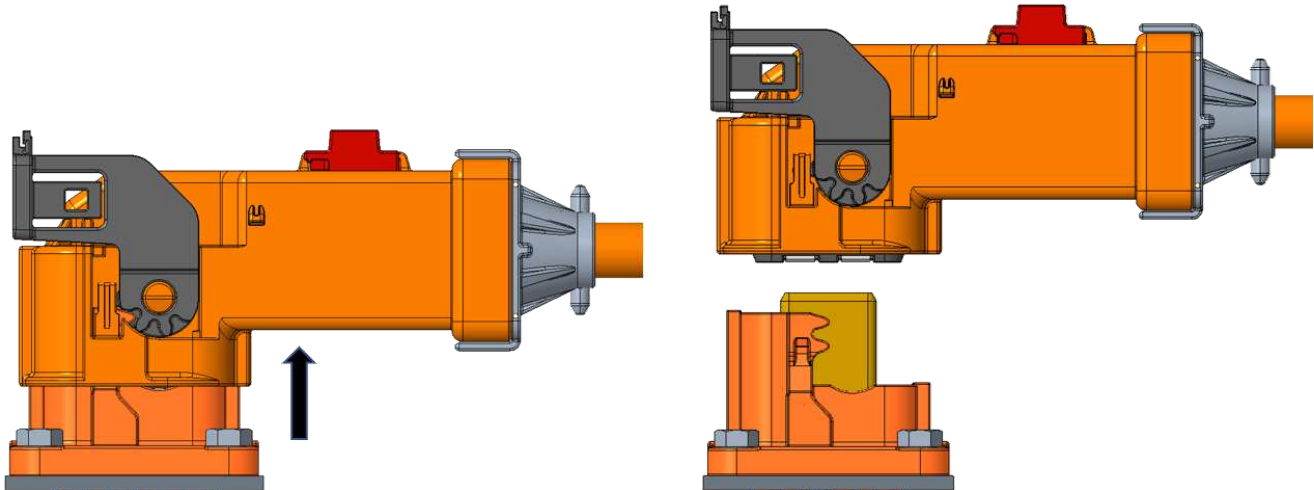

Figure 19: Plug and Header Unmate
3. Holding the connector body pull the plug until it is completely separated from the header as shown in Figure 19.